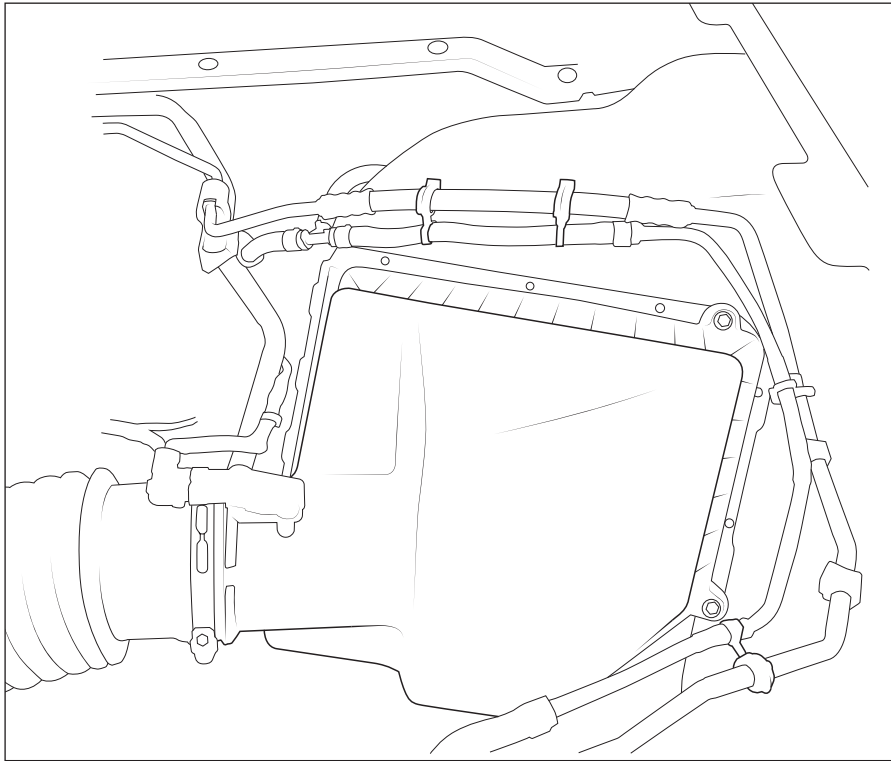

Figure 11
- D. Re-install air filter and Attach factory upper airbox to AEV Lower Airbox using 3 self-tapping screws from disassembly. Re-connect MAF sensor, AC lines, and Intake hose (fig. 11).